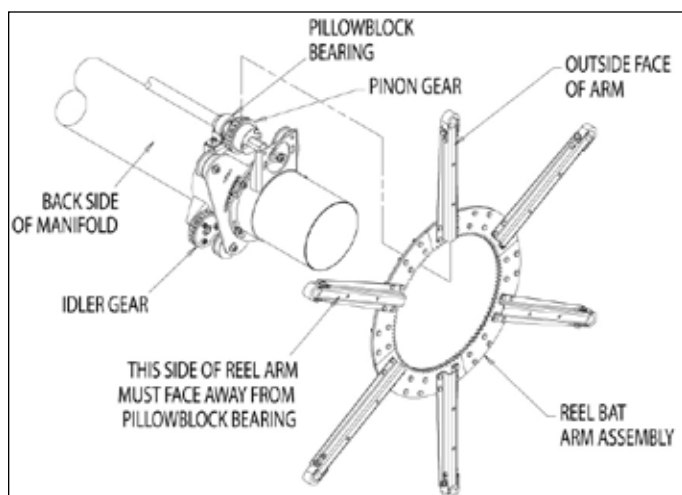

Figure 13, Reel bat arm installation
1. Slide the reel bat arm assemblies over the manifold assembly. Position each assembly onto the pinion gears and the idler gears of the manifold assembly (Figure 13).